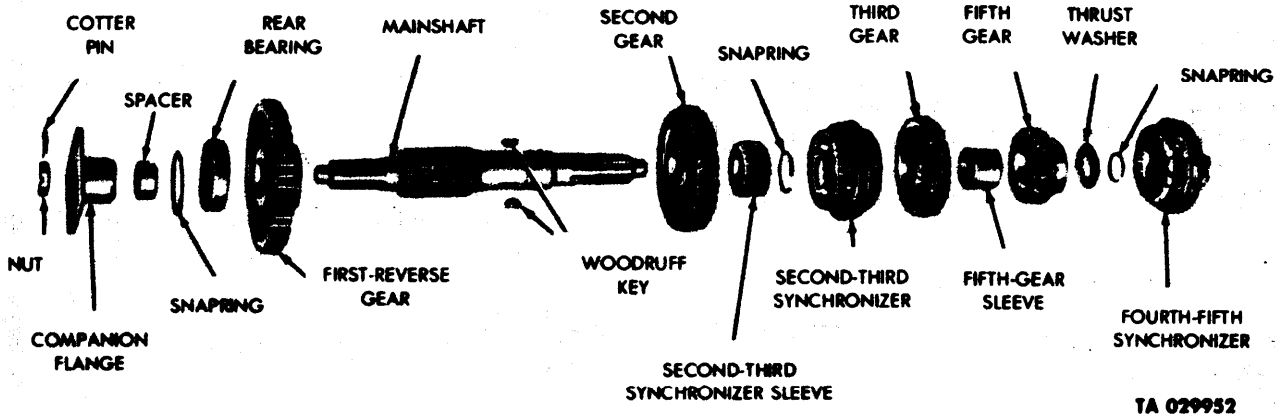
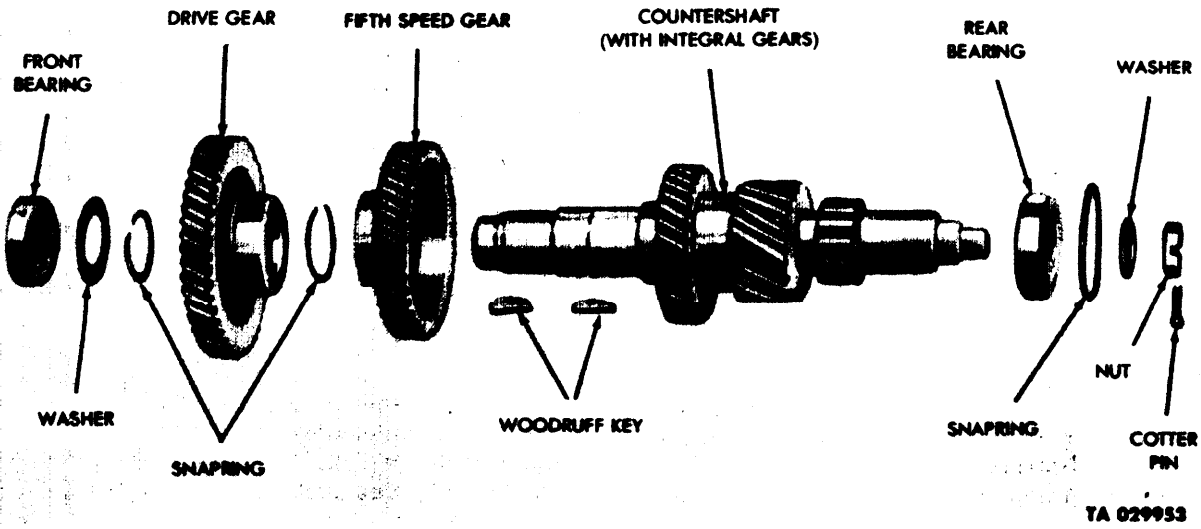

Figure 3-13. Transmission Mainshaft Assembly — Exploded View — Transmission Model 3053A.
Figure 3-14. Transmission Countershaft Assembly — Exploded View — Transmission Model 3053A.
*a. Description.* Figure 3-1 shows the transmission model 3053A used on the 2½-ton, 6x6, multifuel engine vehicles without front winch equipment. This transmission can also power a front winch by means of a power takeoff mounted on the left side of the transmission. (See fig. 3-2.) The construction of transmission model 3053A is almost identical to that of transmission model 3052, except for the fourth and fifth gear arrangements. This difference is shown by comparison between figures 3-13 and 3-6 and figures 3-14 and 3-8.